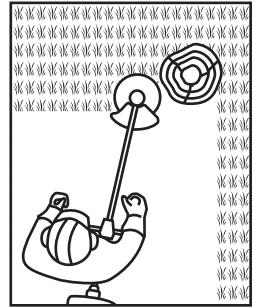

Fig. 25
3. Pay special attention when performing the work close to trees and bushes. The cutting head could damage sensitive bark, and damage fence posts (Fig. 25).